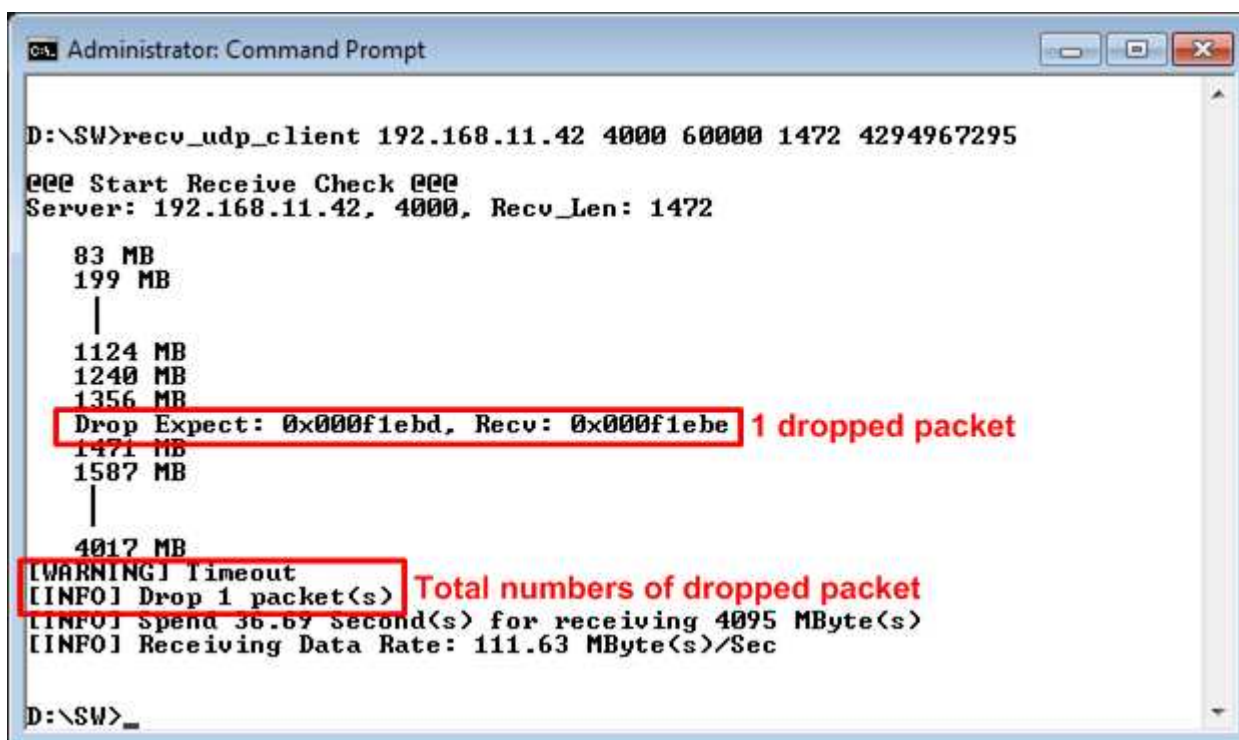

Figure 4-7 Warning message when packet dropped is found
- As shown in Figure 4-7, if packet dropped is found, "Drop Expect" message will be displayed on the console. Final result will show total dropped packet, and test application will be ended by 0.5 sec timeout. "[WARNING] Timeout" message will be displayed when test application is exit from timeout condition.